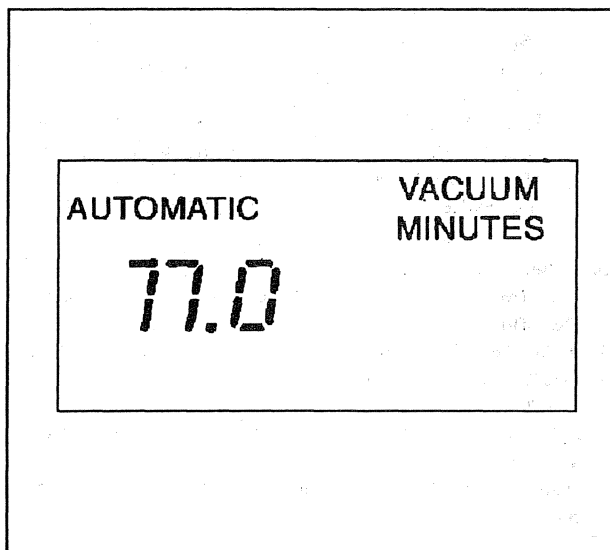

Figure 22—Stopping Evacuation at 17 Minutes
4. At approximately the 17 minute mark on the display, (pump has run for 3 minutes) press "HOLD/CONT" key to stop vacuum pump (figure 22).